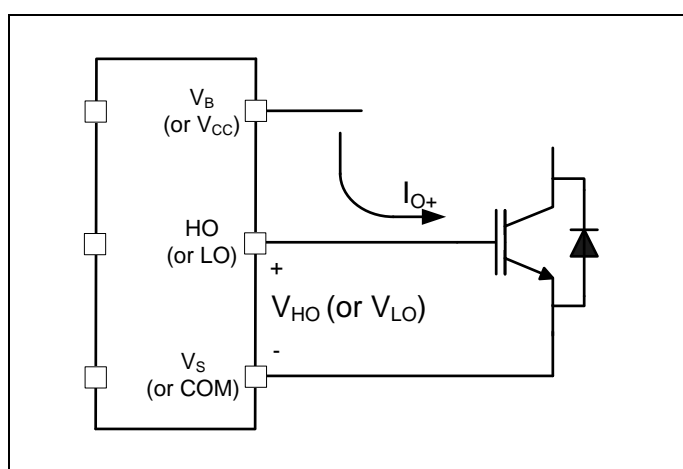

Figure 4 HVIC Sourcing current
The 2ED2184 (4) S06F (J) HVIC is designed to drive MOSFET or IGBT power devices. Figures 4 and 5 illustrate several parameters associated with the gate drive functionality of the HVIC. The output current of the HVIC, used to drive the gate of the power switch, is defined as I_O . The voltage that drives the gate of the external power switch is defined as V_{HO} for the high-side power switch and V_{LO} for the low-side power switch; this parameter is sometimes generically called V_{OUT} and in this case does not differentiate between the high-side or low-side output voltage.